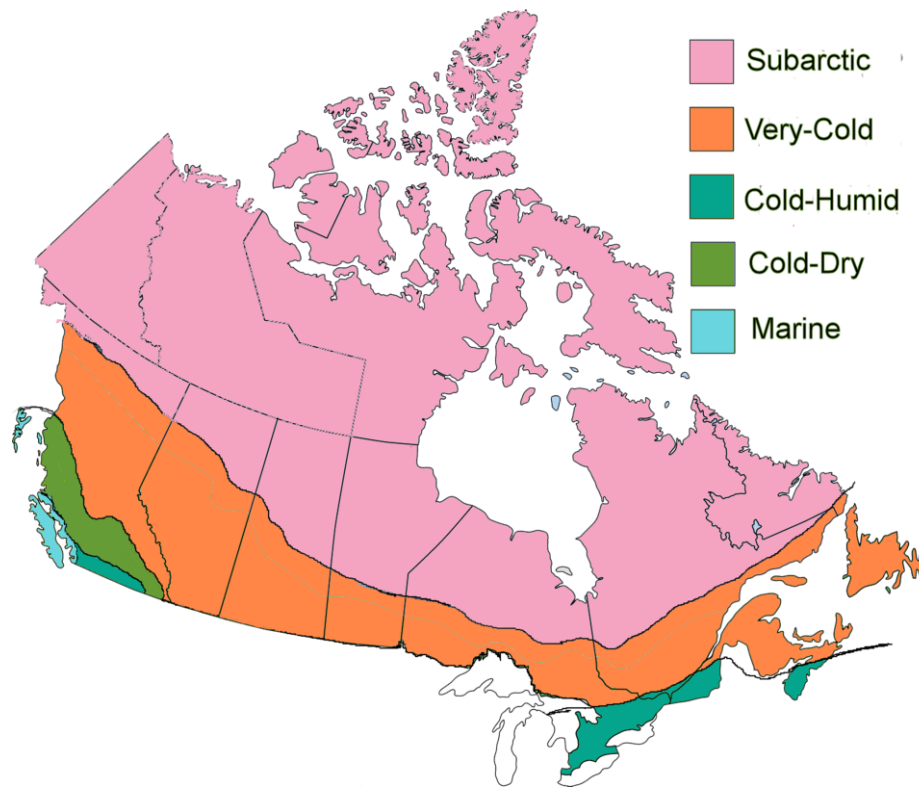

Figure 23: Climate Zone Assignments for Heat Pump Applications
- You can determine the climate zone for house locations in Canada by examining the map of Climate Zone Assignments shown in Figure 23.